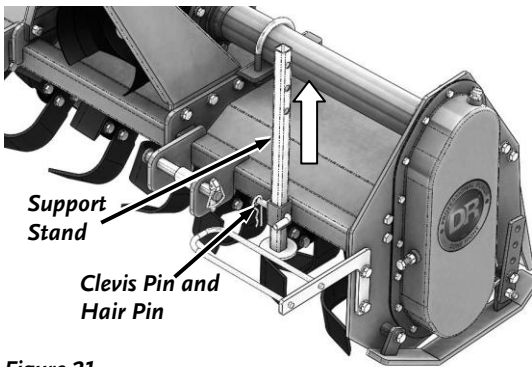

Figure 21
1. Remove the Clevis Pin and Hair Pin that secures the Support Stand in place. (**Figure 21**).